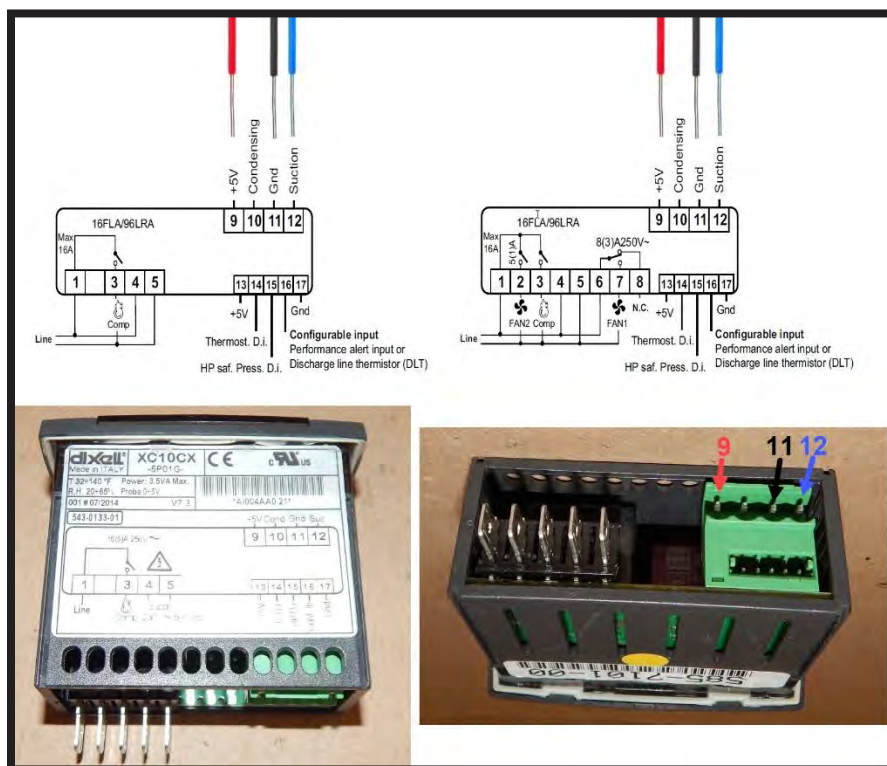

Figure 14 Measuring Suction Pressure Transducer Voltage
3. Using a voltmeter, measure the voltage on the green-block-plug wiring connections located on rear of controller (See **Figure 14**).